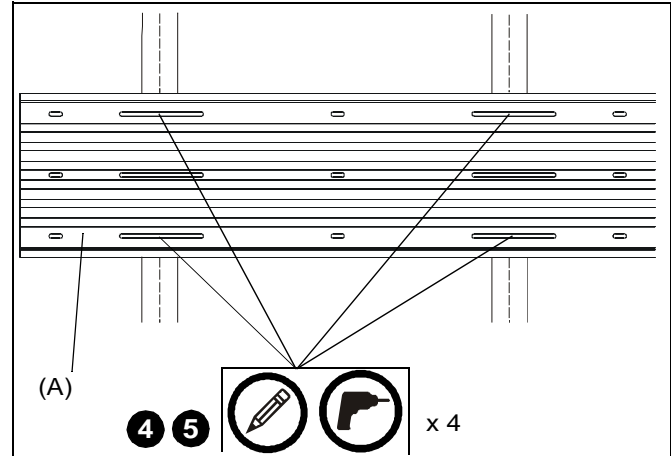

Figure 29
3. Draw a vertical line down the center of the studs to be used. (See Figure 29)
4. Using wall track accessory (A) as a template, mark location of three mounting holes on wall. Make sure wall track accessory is level. (See Figure 29)
5. Drill 1/2" holes at each marked location. (See Figure 29)